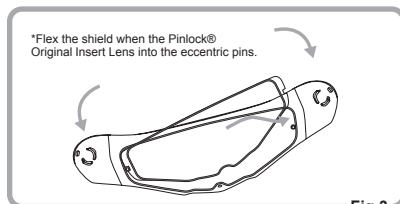

Fig.3
2. Flex the shield carefully until the shield becomes flat. Then, click the other side of the Pinlock® Original Insert Lens into the eccentric pins and then allow the shield to return carefully to its original curved shape. Make sure the Pinlock® Original Insert Lens to be fit inside the chase (Fig. 3, 4 and 5). (Follow 3 on next page)